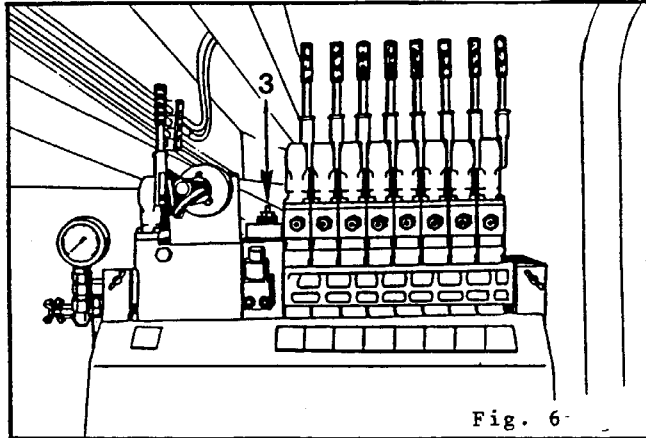

Fig. 6
3. (See fig. 6) This is the relief valve located on the handvalves, and it's function is to protect the handvalves, regardless of a malfunction anywhere else in the system. The prints say that this is set at 330 bar, and we will reset it to 350 bar.
- C. (See fig. 6) Extend the #1 section of the boom until the cylinders can't go any further. The pressure can then be read at the gauge that hangs below the handvalves. Now you may set valve 3 to 350 bar by adjusting the set screw while extending the #1 cylinders. When you get the correct pressure, lock the lock nut on valve 3.